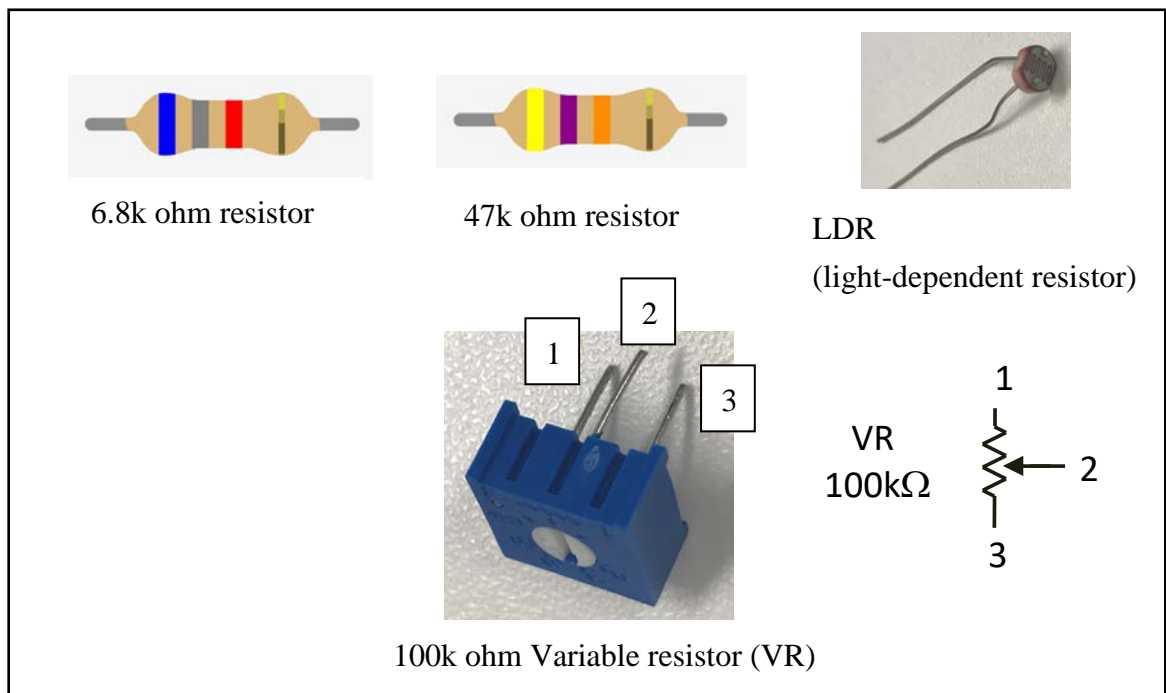
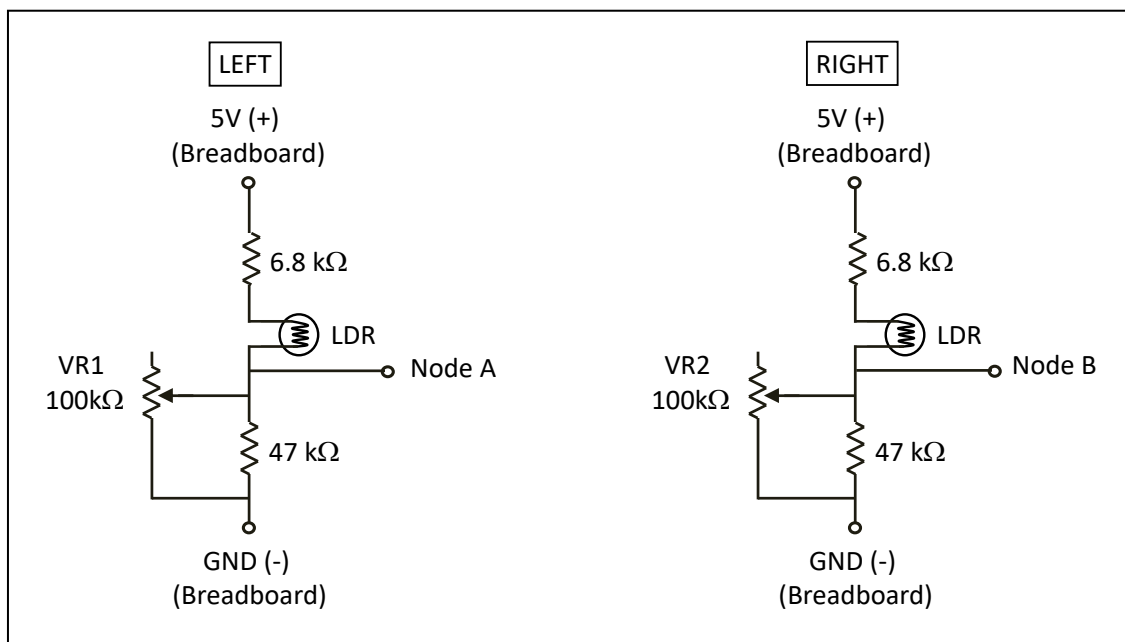
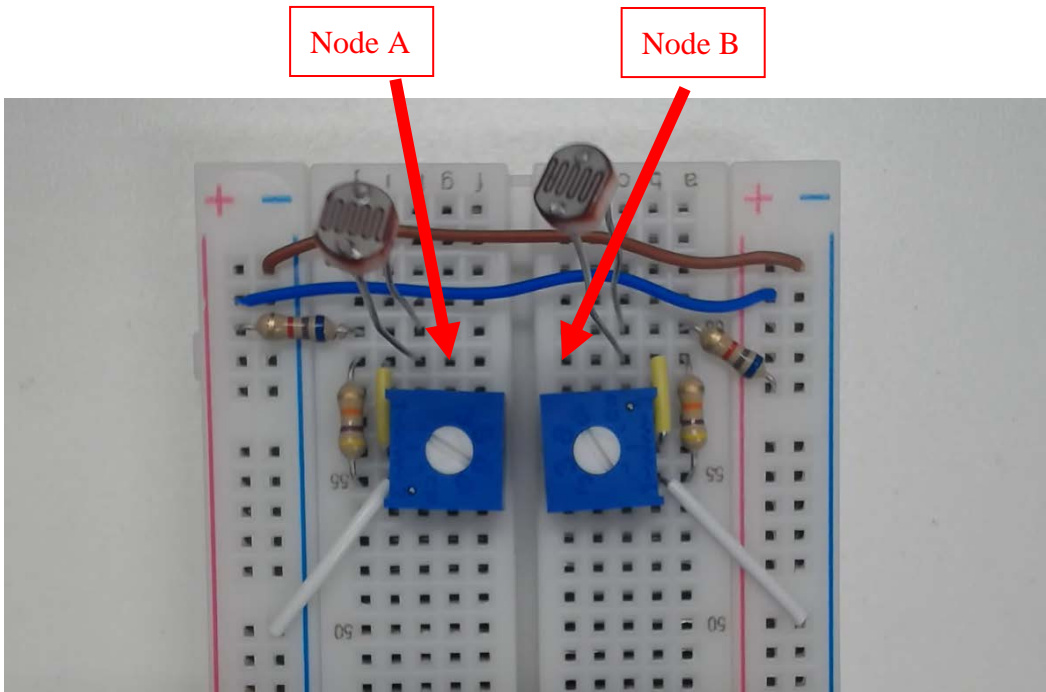

Fig. 17
Fig. 18
Fig. 19
5.1.4. The 6.8k ohm resistor, 47k ohm resistor, 100k ohm variable resistor (VR), and LDR (Light-dependent Resistor) are shown in Fig. 17. Connect LDR circuit shown in Fig. 18, and put all the components on the breadboard as shown in Fig. 19, 20, and 21. You could refer to the video (video6-LDR_circuit.mp4) for demonstration.